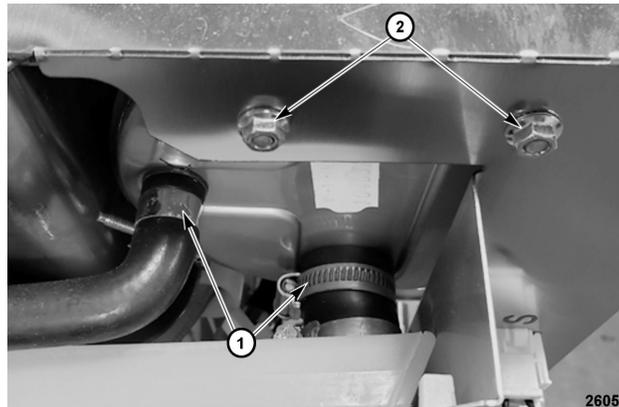

Fig. 33
4. On the back of the booster, disconnect and remove hoses (1, Fig. 33).
5. From back of booster, remove hardware (2, Fig. 33) from booster to chamber.